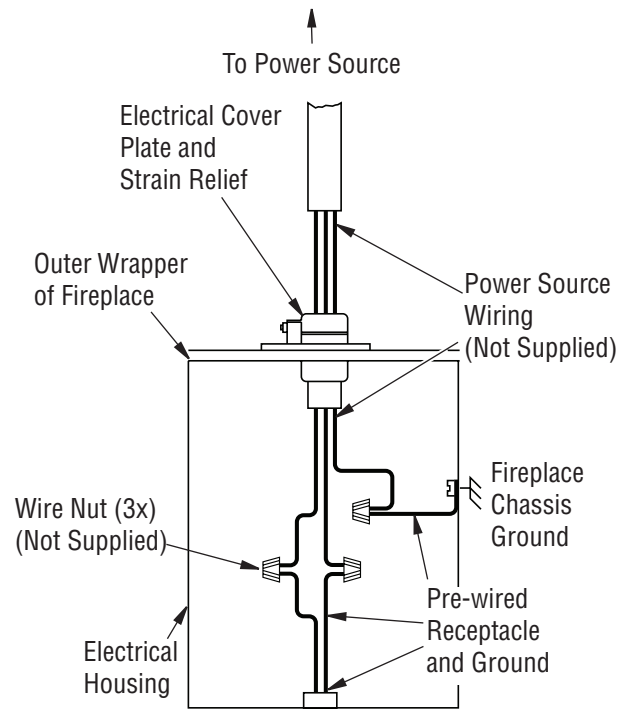

Figure 6a - Fan Kit Wiring Diagram
4. Place all wiring connections into electric housing as shown in Figure 6a.